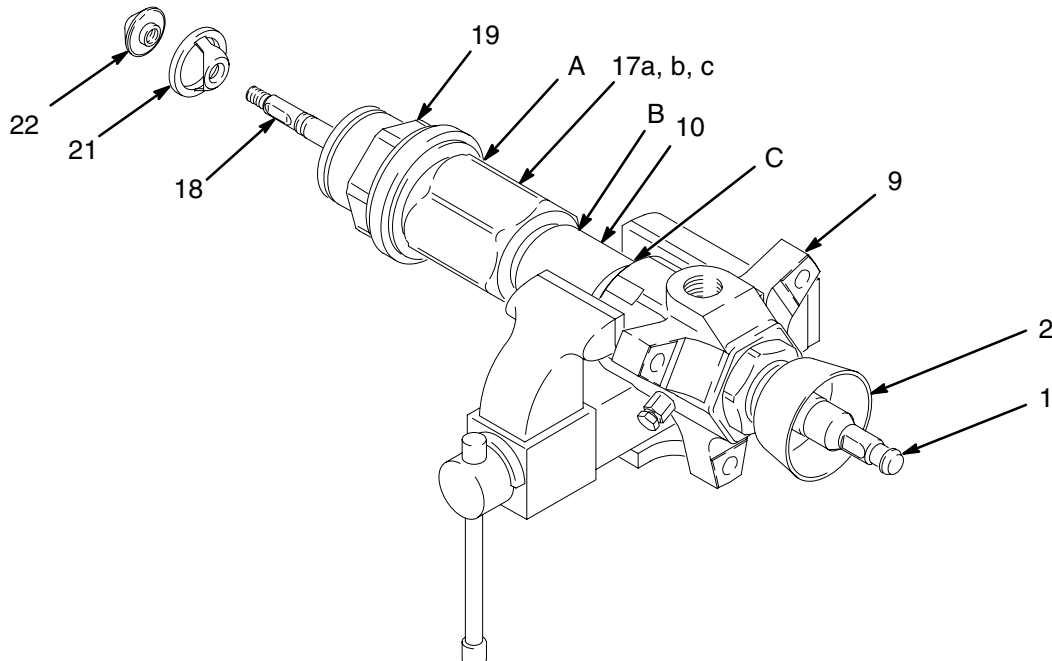

Fig. 8
1. Remove the displacement pump from the motor as explained on page 18. Place the pump in a vise, with the outlet housing (9) positioned as shown in Fig. 8.
2. Hold the flats of the priming piston rod (18) with an adjustable wrench, and use a second wrench to unscrew the priming piston seat (22) from the rod. Slide the priming piston (21) off the rod. Inspect the inner and outer surfaces of the piston (21) for scoring, wear, or other damage.
3. Loosen the packing nut (2) using the wrench (109) supplied.
4. Using a pipe wrench on the hex of the intake cylinder (19), unscrew it from the intake valve housing (17). The pump may separate at joints A, B, or C. See Fig. 8.